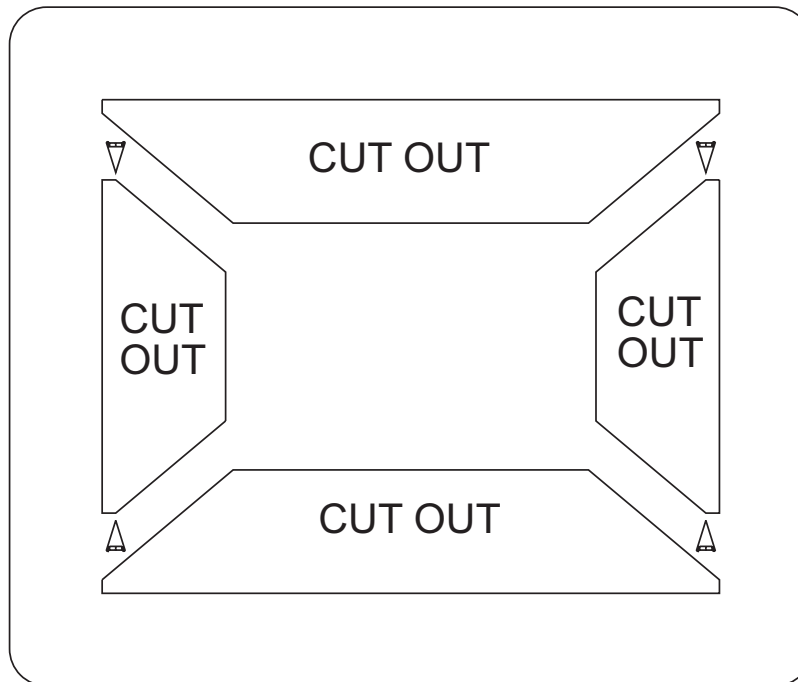

Figure 4 – Back Box Mounting Wall-Cutout Template
1. Place the mounting template on the wall as shown in **Figure 4** above.